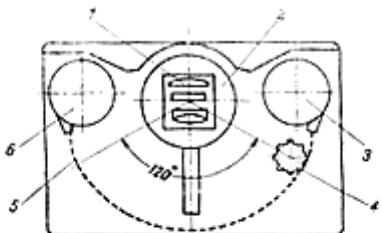
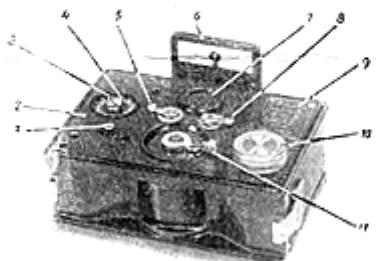
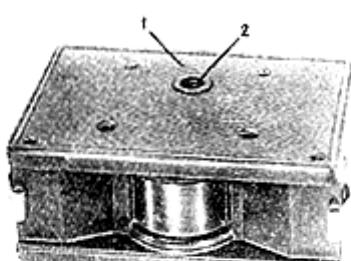
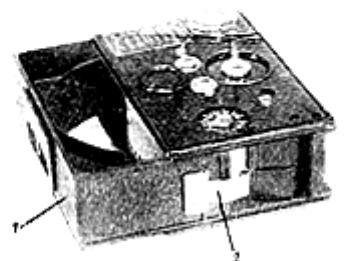

Fig. 1. Scheme of "ФТ-2" Panoramic Camera
Fig. 2. General View of "ФТ-2" Camera
Fig. 3. "ФТ-2" Camera. View of Lower Lid
Fig. 4. "ФТ-2" Camera. View of Side Walls
The diagram of the "PT-2" camera is shown in Fig. 1. The camera comprises the following: "Industar-50" lens 1 mounted inside turning drum 2, feed magazine 3, graduated exposure
The following fixtures are mounted on upper lid 2 (Fig. 2): exposure counter 3 with needle 4, ball level 7, right-hand lever 8 and left-hand lever 5. Exposure speeds are set by turning the above levers to various positions indicated in table 9. Besides the exposure speeds shown in the table an exposure speed equalling roughly 1/60 sec can also be attained by setting levers 8 and 5 into position shown in Fig. 4. To wind the film by one picture, turn key 10 in the direction shown by the engraved arrow till needle 4 makes three turns around the counter axle plus one mark of the exposure counter scale.
Frame 6 is a view-finder. Standard thread 2 (Fig. 3) is provided on the lower lid 1 for fixing the camera on a tripod or in the case. Side walls of the detachable lid 1 (Fig. 4) have jacks 2 for locking the camera after its loading.
When fixing the film end make sure that the slot of the spool is in the upper position. Turn the open camera with its back to you. Set needle 4 (Fig. 2) of the exposure counter at mark "6", insert the magazine and take-up spool into the camera. Slip on the lid and latch locks 2 (Fig. 4).
To advance the unexposed film to the film gate turn winding key 10 (Fig. 2) by 3.5 turns of needle 4 and set the latter at the mark with figure "1".
Then set the exposure speed by turning levers 8 and 5 into positions shown in table 9 (Fig. 2).
open the camera, i.e. remove back detachable lid 1 (Fig. 4);
slip out take-up spool 6 (Fig. 1) with film by lifting crank 10 (Fig. 2) until stop. The camera is ready for reloading.